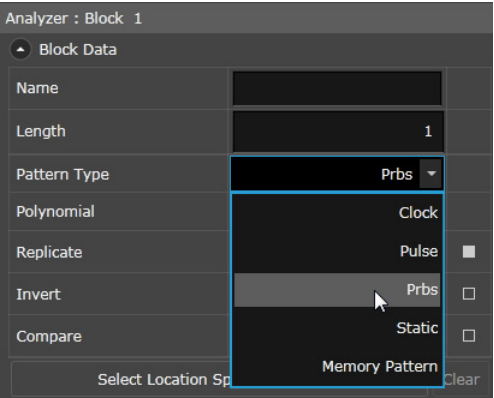

Figure 37 Select Pattern Type
- a In the **Block Data** properties, select **Prbs** as the **Pattern Type** as shown in Figure 37 on page -84.